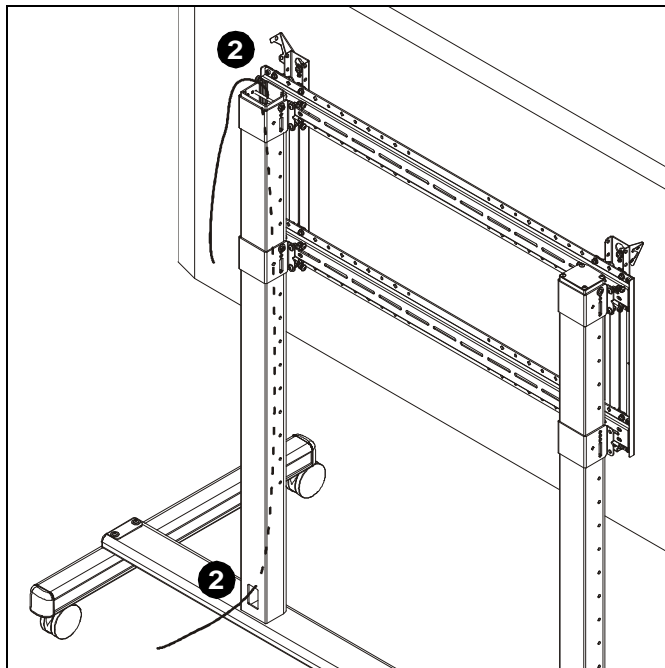

Figure 17
2. Cables may be routed through tops of columns and out through the back cable management hole. (See Figure 17)